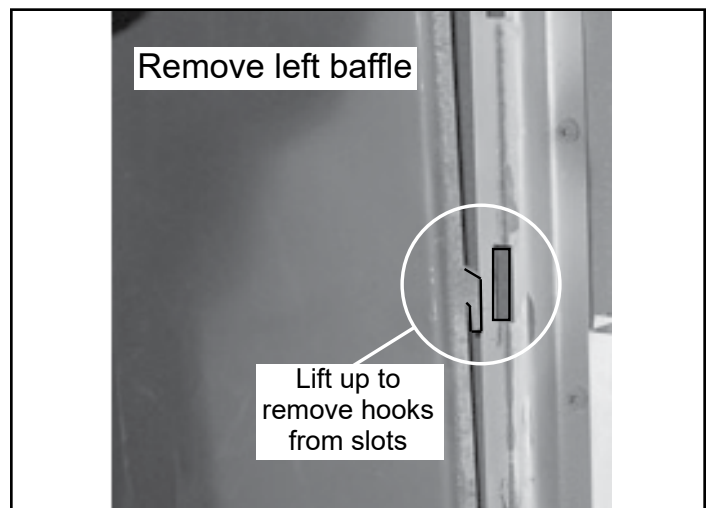

Figure 26.3
3. Remove the left baffle and then the right baffle by pulling up and then towards you. The left and right baffles have similar hooks and slots (**Figures 26.3 and 26.4**).